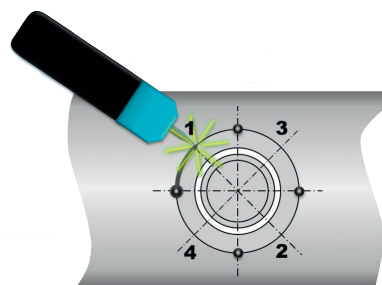

Fig. 2: Welding
4. Weld the sections between the points (fig. 2).
3. Weld the sections between the four points (fig. 2).